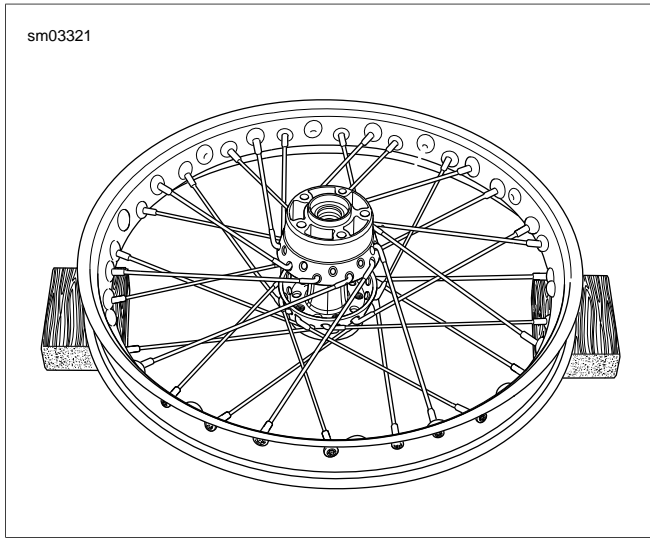

Figure 2-50. Lower Row Spokes Completed
8. See Figure 2-50. Place the remaining nine lower row spokes, angled clockwise, into hub and rim.